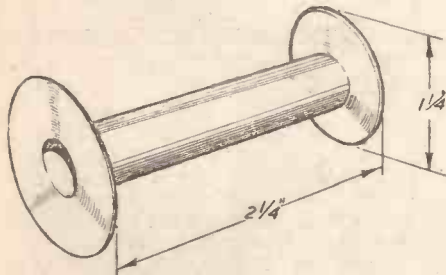

Fig. 5.—The bobbin.
For securing the electro-magnet in position a screw or piece of threaded rod (S) is riveted to the yoke. Slipped over the cores are the bobbins (Fig. 5), these are wound with the magnetising coils.